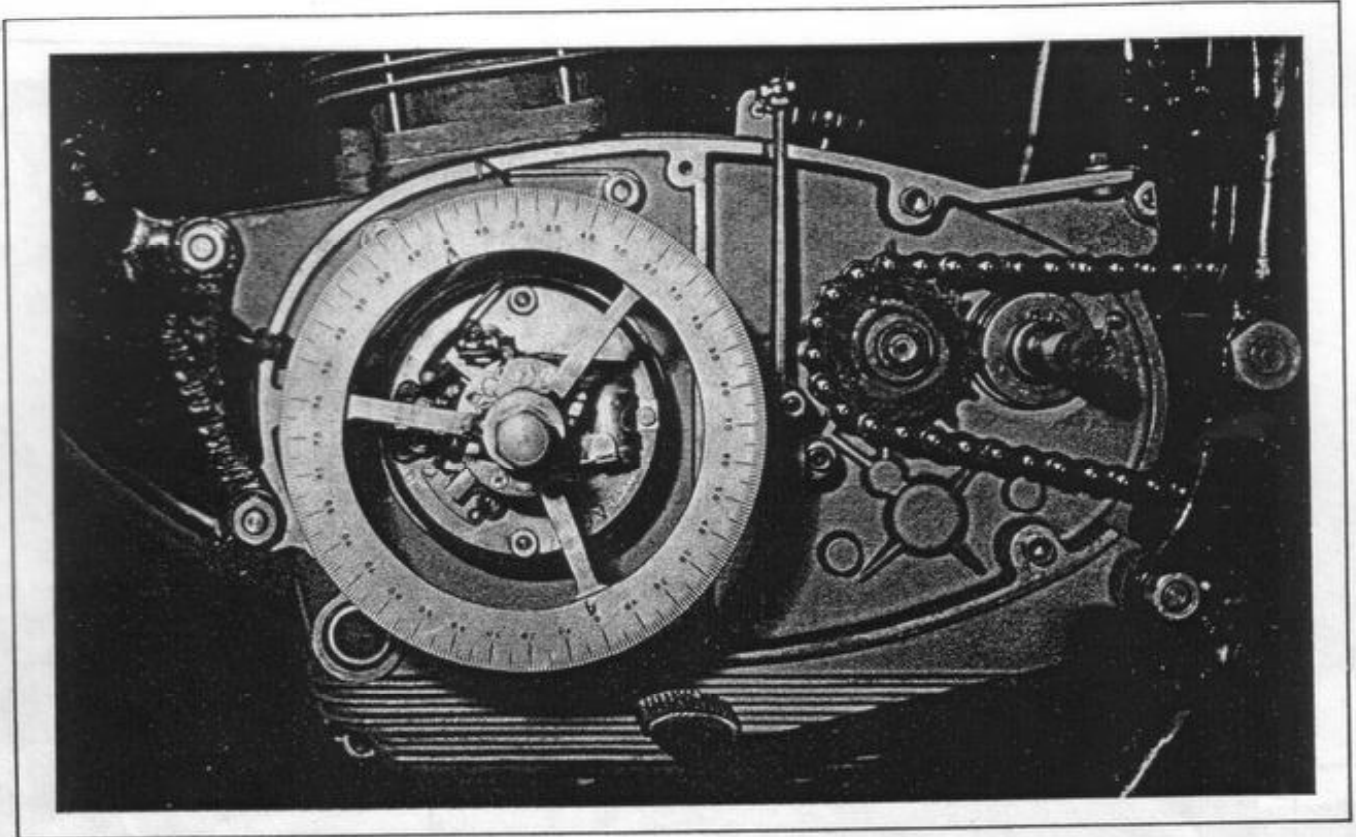
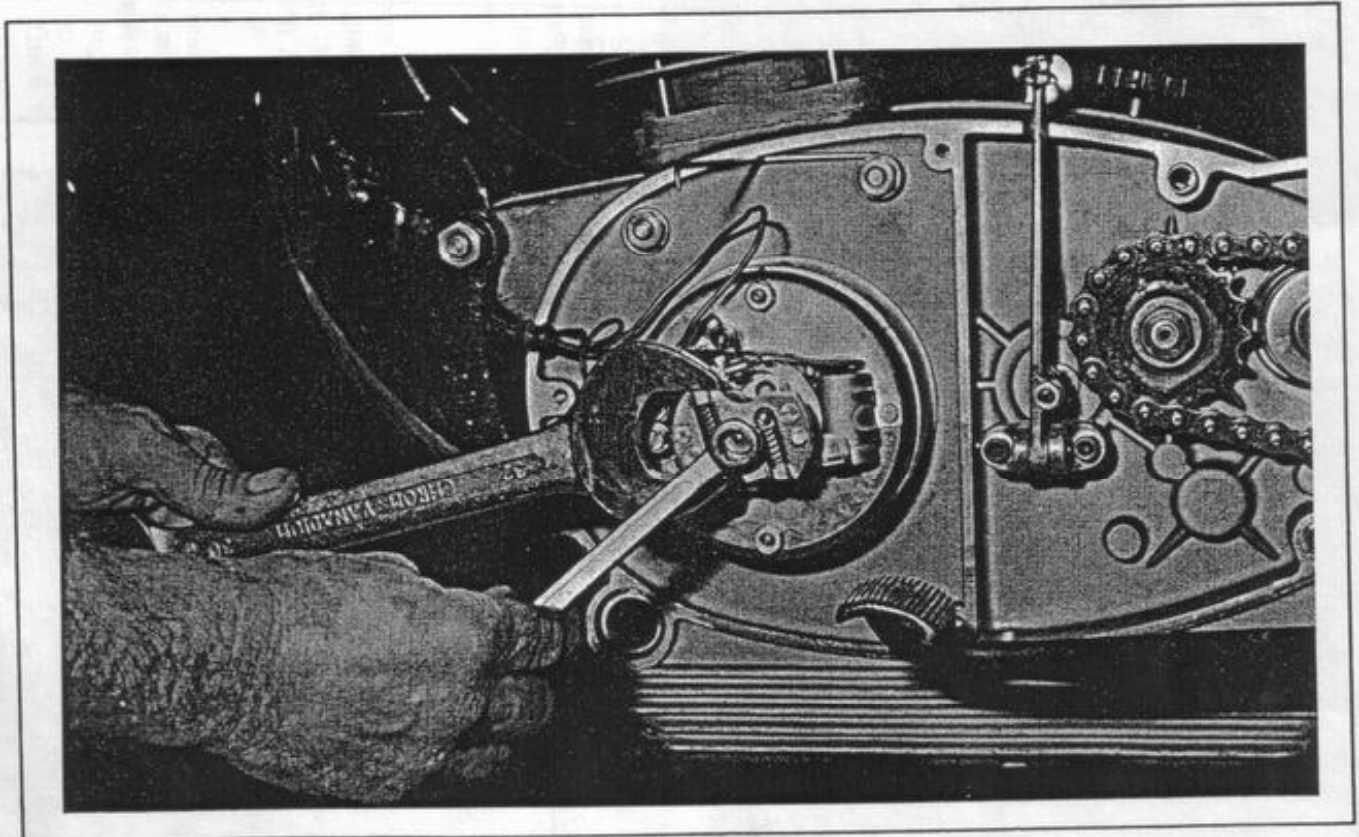

Figure 11.
Figure 12.
14. It is not safe or practical to check the automatic spark advance using the preceding method. A timing disc as illustrated in Figure 11 and a timing light would be necessary to check the automatic advance under operating conditions. It will be sufficient, however, to check the action of the springs of the automatic advance. They should hold the weights firmly in the rest position. Replace the springs if necessary. Move the weights out by hand to check for free movement. Run the engine. The weights should begin to move out at 800 R.P.M., a slightly fast idle. Replace the entire automatic advance if there is any doubt about its performance (Figure 12). Torque the generator fixing bolt to 15 foot pounds.